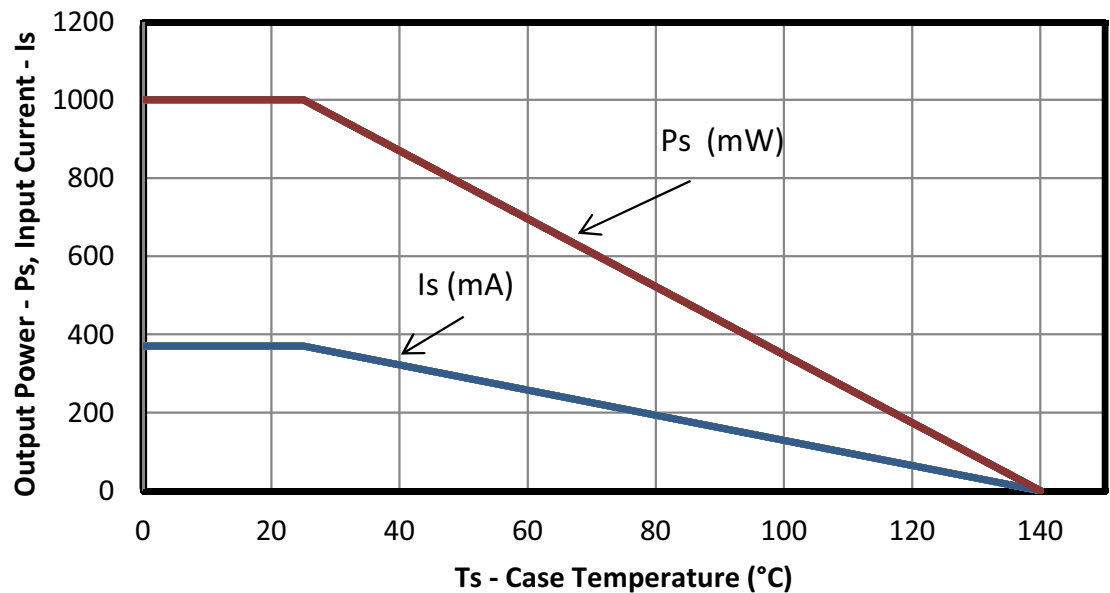

Figure 5. (SOIC-8) Thermal Derating Curve, Dependence of Safety Limiting Values with Case Temperature per VDE0884-10
*Note: Maximum value allowed in the event of a failure; also see the thermal derating curve in Figures 5, 6, 7, and 8.